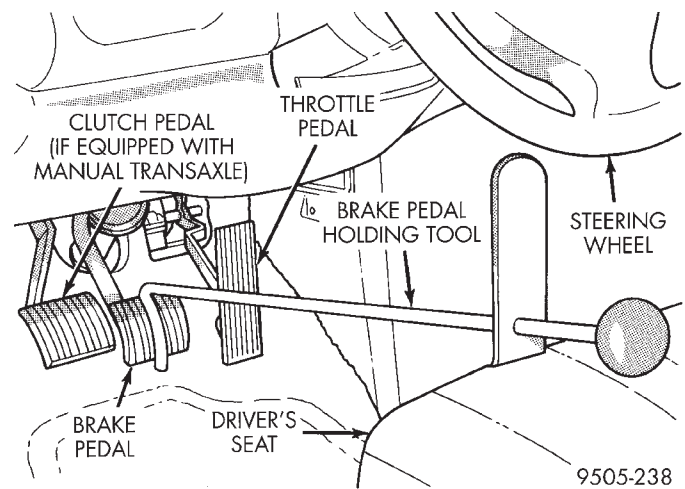

Fig. 22 Brake Pedal Holding Tool Installed
(3) Using a brake pedal positioning tool such as shown in (Fig. 22) depress brake pedal past its first 1 inch of travel and hold in this position. This will isolate the master cylinder reservoir from the brake hydraulic system, not allowing the brake fluid to drain out of the reservoir.